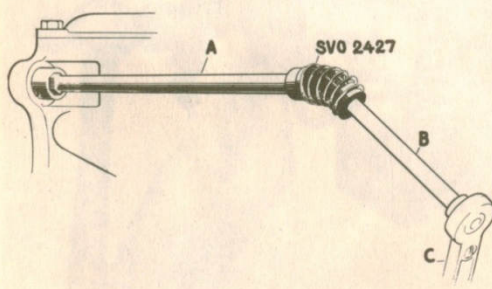

Fig. 3-16. Removing the upper gearbox bolts.
5. Slacken the upper bolts which hold the gearbox to the clutch casing with the help of spanner SVO 2487 (3/8" recessed hexagon) or SVO 2488 (8 mm recessed hexagon), see A, Fig. 3-16 and ball joint SVO 2427. Slacken the lower bolts with a standard hexagon spanner, preferably an extra long one. Pull out the gearbox to the rear.